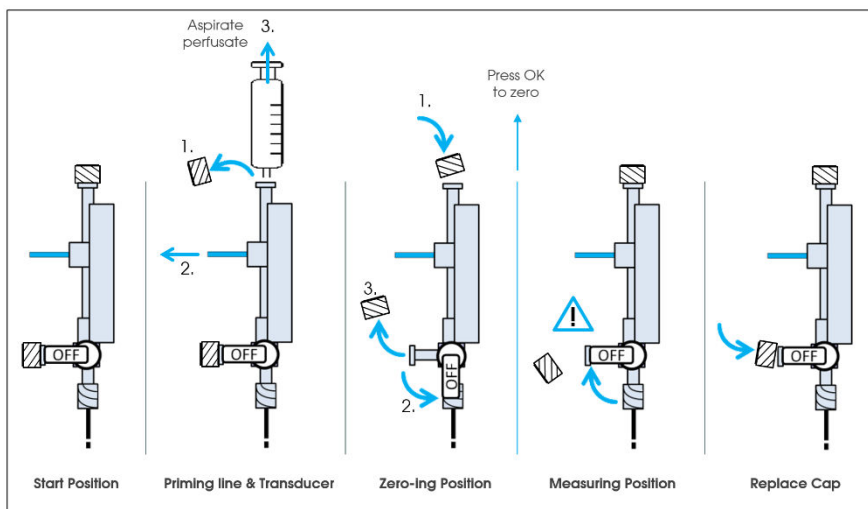

Figure 17: De-airing of the pressure sensor
- Prime the pressure line and remove cap on top of the pressure sensor (transducer) and place a sterile syringe on the opened port (figure 17).
- Remove the syringe and close opening by re-placing the cap (figure 17).
- De-air the oxygenator (41) with the use of the flush line on top of the oxygenator.
- De-air the Leukocyte filter (63)
- Set the height of the pressure sensor holder (35) at infusion pole to the same height as the donor body.
- Remove cap on top of the pressure sensor (transducer) and place a sterile syringe on the opened port (figure 17).
- Remove the syringe and replace the cap. Turn the valve on the pressure sensor (transducer) counter clockwise to open the sensor to measure atmospheric pressure and remove the cap (see figure 17)
- Turn the pressure sensor valve back to measuring (end) position (clockwise, see figure 17).